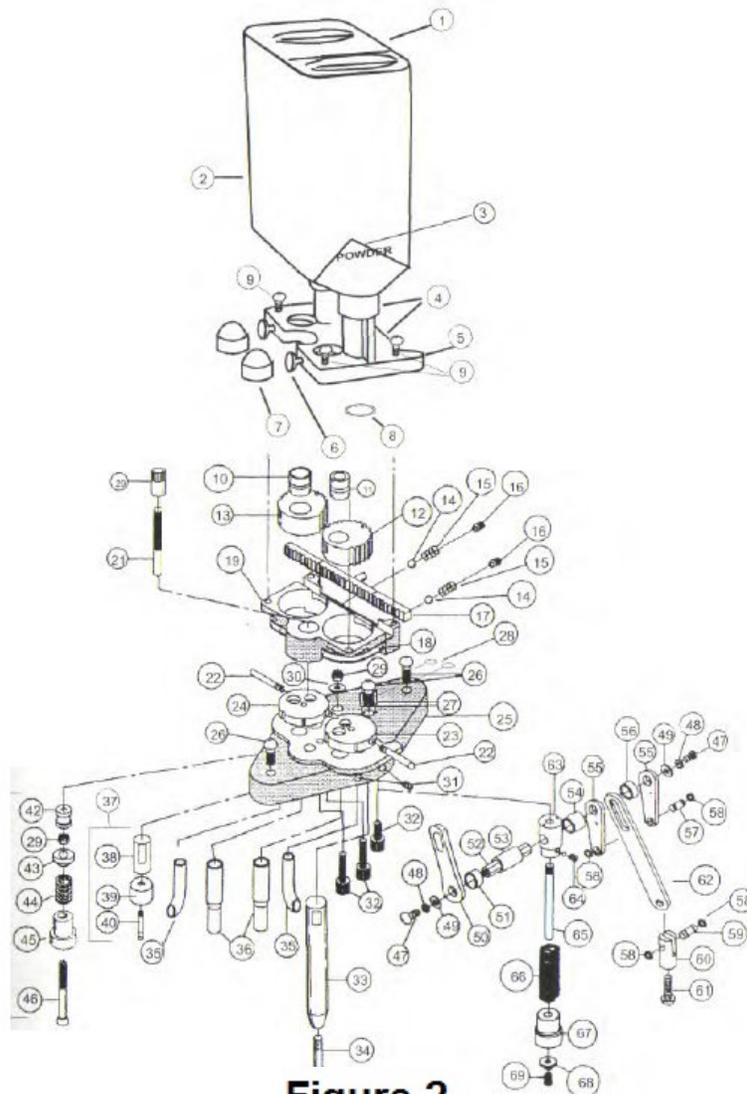

Figure 2
2. Remove the four (4) thumb screws (Fig 2 #9) holding the EX-Fill Hopper system and set aside.
4. Remove the Rack Gear (Fig 2 #17), Shot and Powder Gear (Fig 2 #12 & #13), and the shot and powder bushings (Fig 2 #10 & #11).
6. Remove the socket head cap screws (Fig 2 #26) over the right and left Guide Posts. These can be a bear to loosen. Occasionally, a smart smack down on each will cause it to loosen up to remove. Lift off the top toolhead.
11. Install new tooling head with socket head cap screws and washers (Fig 2 #26) and tighten.
12. Install the socket head cap screw (Fig 2 #61) under crosshead, if removed, or the removed snapping and 1/4" link pin (Fig 2 #58 & #59).